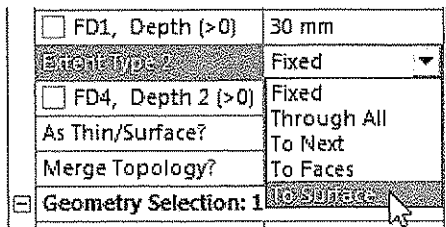

Figure 5-53 Selecting the *To Surface* option from the *Extent Type 2* drop-down list
50. In the **Extent Type 2** drop-down list, select the **To Surface** option, as shown in Figure 5-53; the **Target Face 2** selection box is displayed under the **Extent Type 2** drop-down list and is highlighted in yellow.